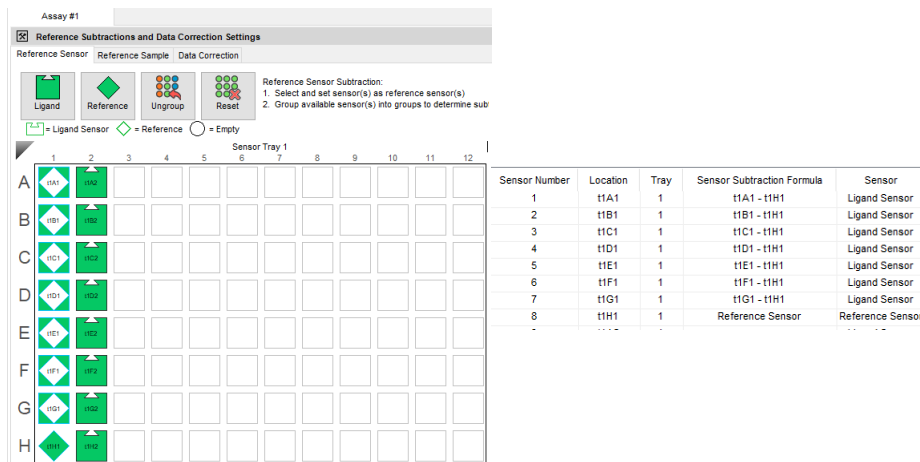

Figure 4-21: Group Reference In Column Tray View and Sensor Subtraction Formula
- **Subtract Reference in Column** - Groups reference and ligand biosensors in a column. For example, if your ligand biosensors are A1-G1 in column 1 and your reference biosensor is H1, this subtracts H1 from each sensor in the column, H1 from A1, H1 from B1 and so on (Figure 4-21).